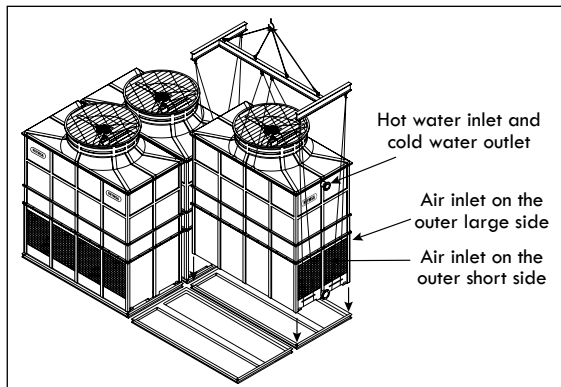
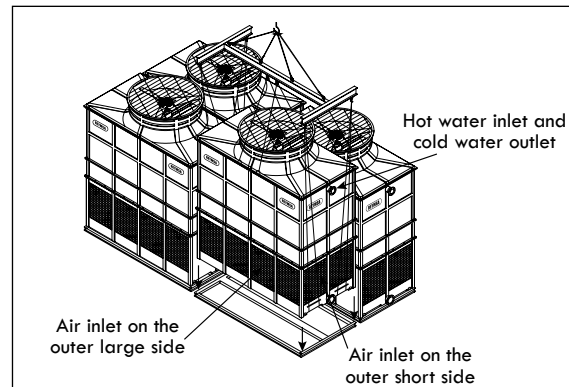

Figure A-105: X-Orientation - Third T2 module lifting and installation (RTGM and RTGMT-C Models)
Figure A-106: X-Orientation - Fourth T2 module lifting and installation (RTGM and RTGMT-C Models)
- D. Repeat the previous two steps to install the remaining modules. Pay attention to the correct module arrangement; Each module is labeled alphabetically (module 1: A; module 2: B, etc.) for a proper installation (see Figure A-105 and Figure A-106).